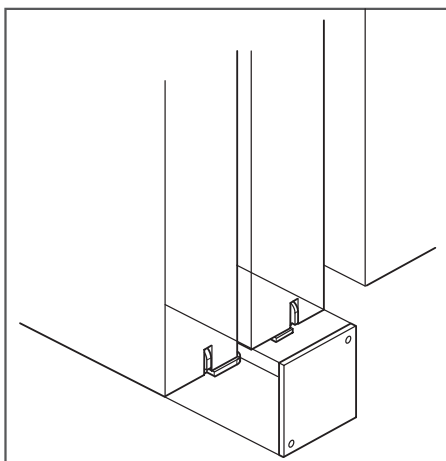

Figure 11
22. Position the End Plate on the bottom edge of the door, aligning the plate with the side and bottom edges of the door (Figure 11).